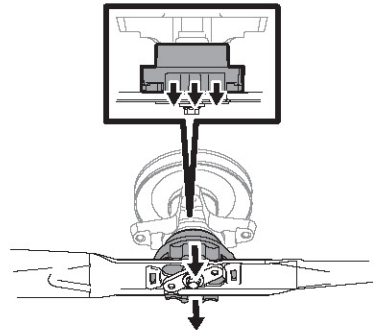

Figure 50
6. There will be an audible click when the blade is properly locked in place. See Figure 50.